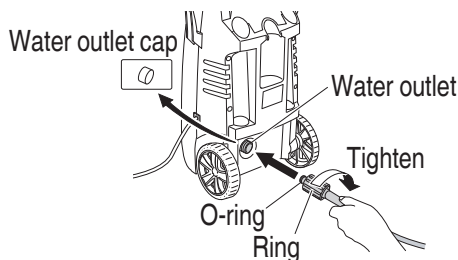

Fig. 6
2. Attaching the high-pressure hose to the washer's water outlet (Fig. 6)